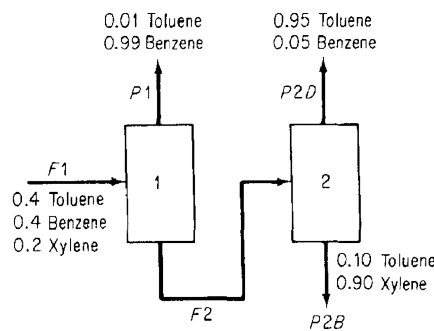

Figure SAT11P1
1. A two-stage separations unit is shown in Figure SAT11P1. Given that the input stream F1 is 1000 lb/hr, calculate the value of F2 and the composition of F2.
2. A simplified process for the production of SO_3 to be used in the manufacture of sulfuric acid is illustrated in Figure SAT11P2. Sulfur is burned with 100% excess air in the burner, but for the reaction $S + O_2 \rightarrow SO_2$, only 90% conversion of the S to SO_2 is achieved in the burner. In the converter, the conversion of SO_2 to SO_3 is 95% complete. Calculate the kg of air required per 100 kg of sulfur burned, and the concentrations of the components in the exit gas from the burner and from the converter in mole fractions.